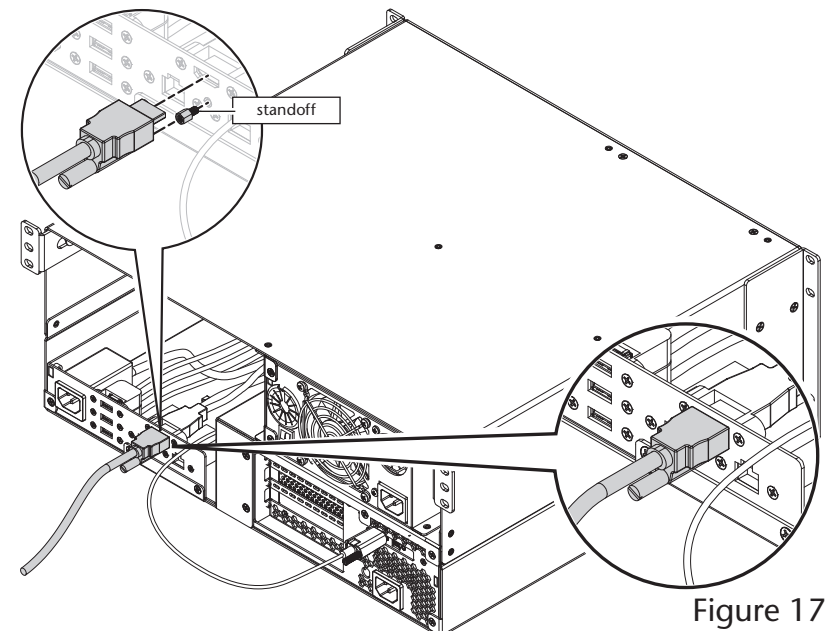

Figure 17
6. OPTIONAL STEP: If you are connecting a monitor with an HDMI input to the xMac Pro Server, screw in the included standoff to the threaded hole just below the HDMI port on the back of the computer mounting module (Figure 17). Then, plug in the included HDMI cable to the computer mounting module's HDMI port, securing the locking connector by turning its thumbscrew clockwise. Plug in the other end of the cable to the monitor.